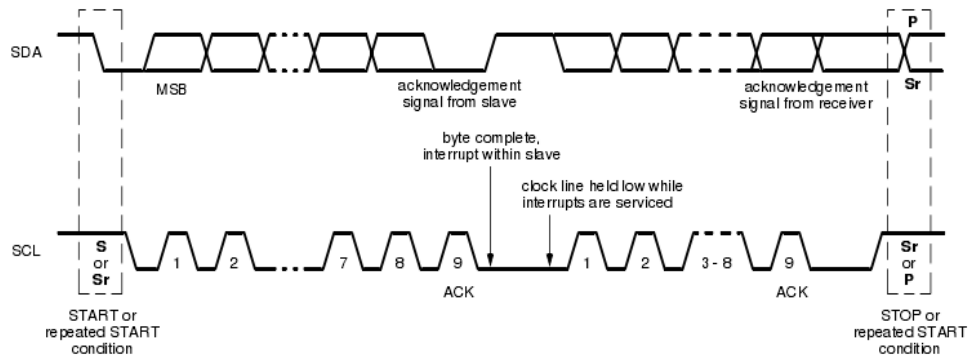

Figure 8: Data Transfer I2 C bus
7), the last transmission is lowest (LSB, bit 0). Also must be followed by an acknowledge bit after each byte (ACK). C transmission data shown in Figure 8.